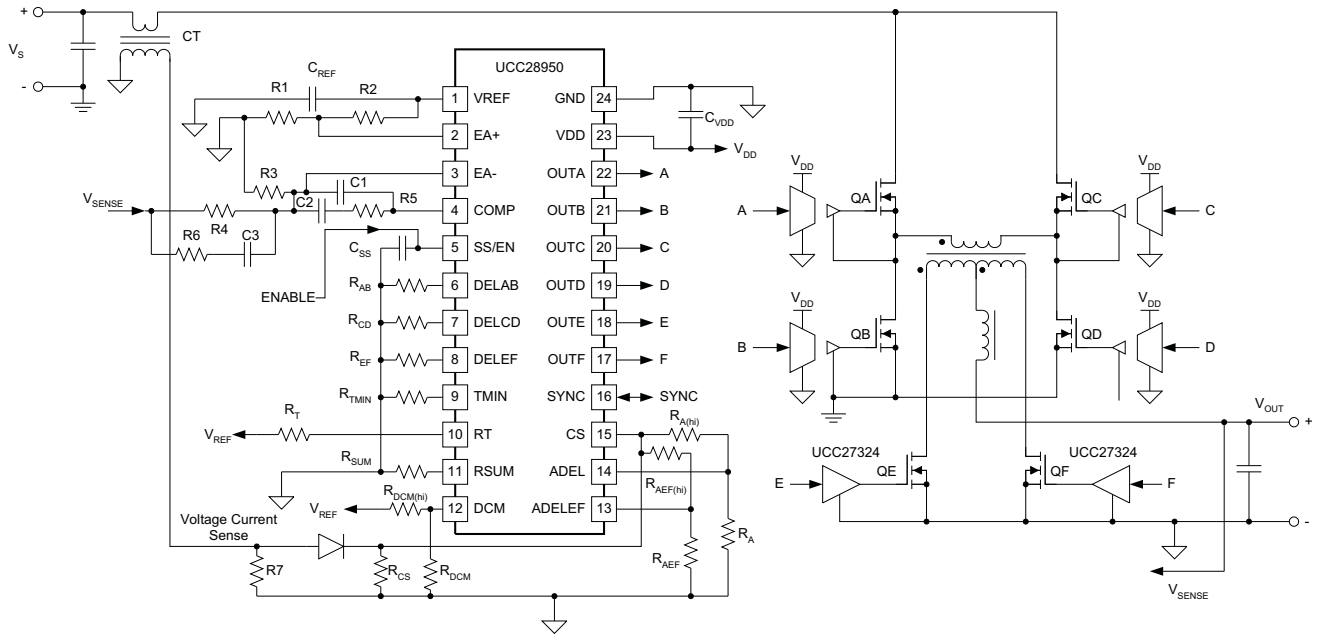

**Figure 1. Functional Block Diagram**
**Equation 6** defines delay time  $t_{AFSET}$ . The same **Figure 1** defines the delay time  $t_{BESET}$ .